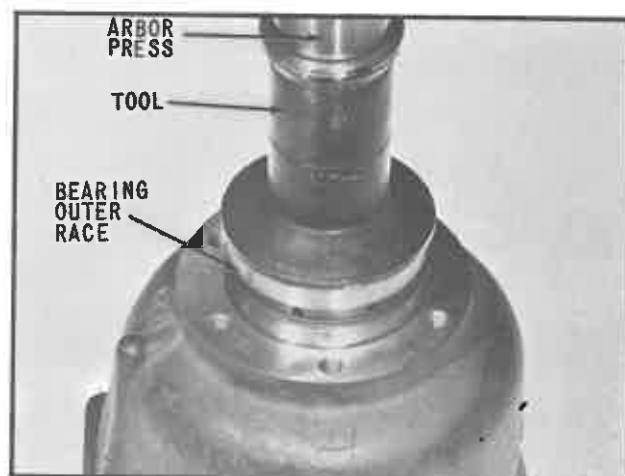

Fig. 27 Installing Outer Bearing Race
20. Lubricate the outer diameter of outer race with automatic transmission fluid and press it into the reduction housing, using a suitable tool as shown in (Fig. 27), until